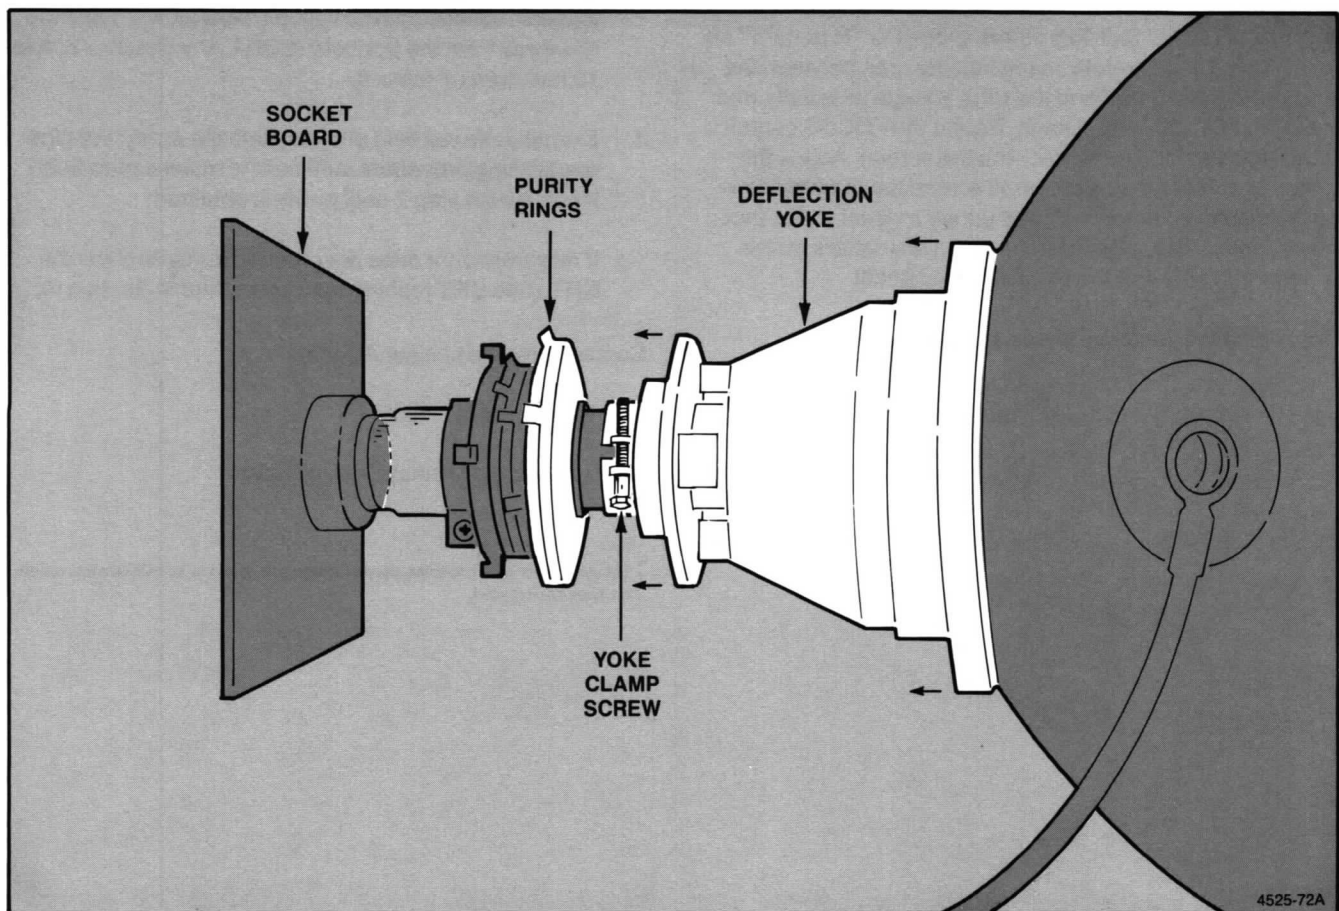

Figure 5-5. Yoke Clamping Screw and Purity Rings.
6. Loosen the deflection yoke (unscrew the clamp) just enough to let it slide toward the rear on the CRT neck (see Figure 5-5).
11. Adjust the purity rings to obtain the purest red "ball" in the center of the display. See Figure 5-5, again.